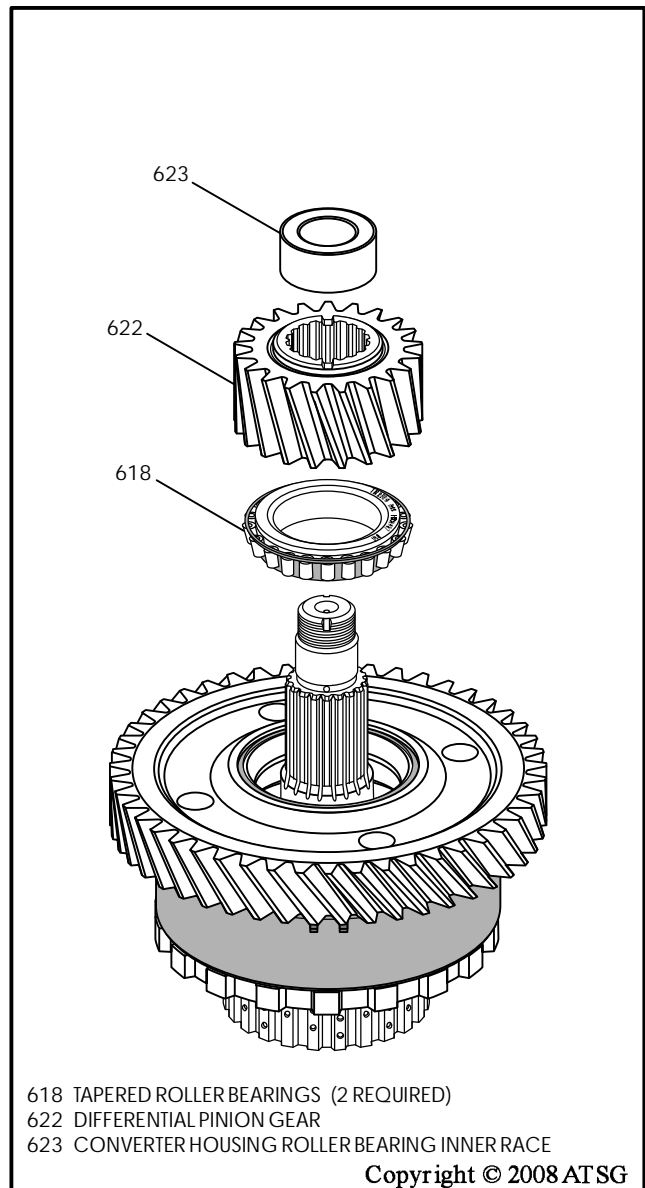

Figure 104
9. Install tapered roller bearing over the shaft, as shown in Figure 104.
10. Install the differential pinion over the shaft, with the grooved side facing up, as shown in Figure 104.
11. Install the converter housing bearing inner race on top of the differential pinion gear, as shown in Figure 104.